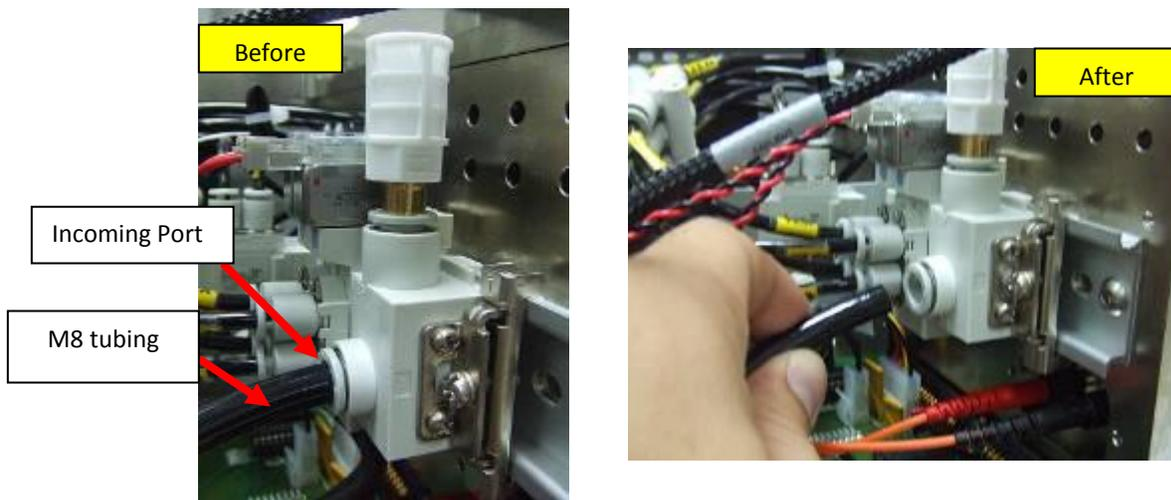

Figure 8 Disconnecting M8 tubing end from the Incoming Port
- 8. Then, also disconnect the M8 tubing end from the incoming port of the Single Solenoid Valve assembly as illustrated in Figure 8.